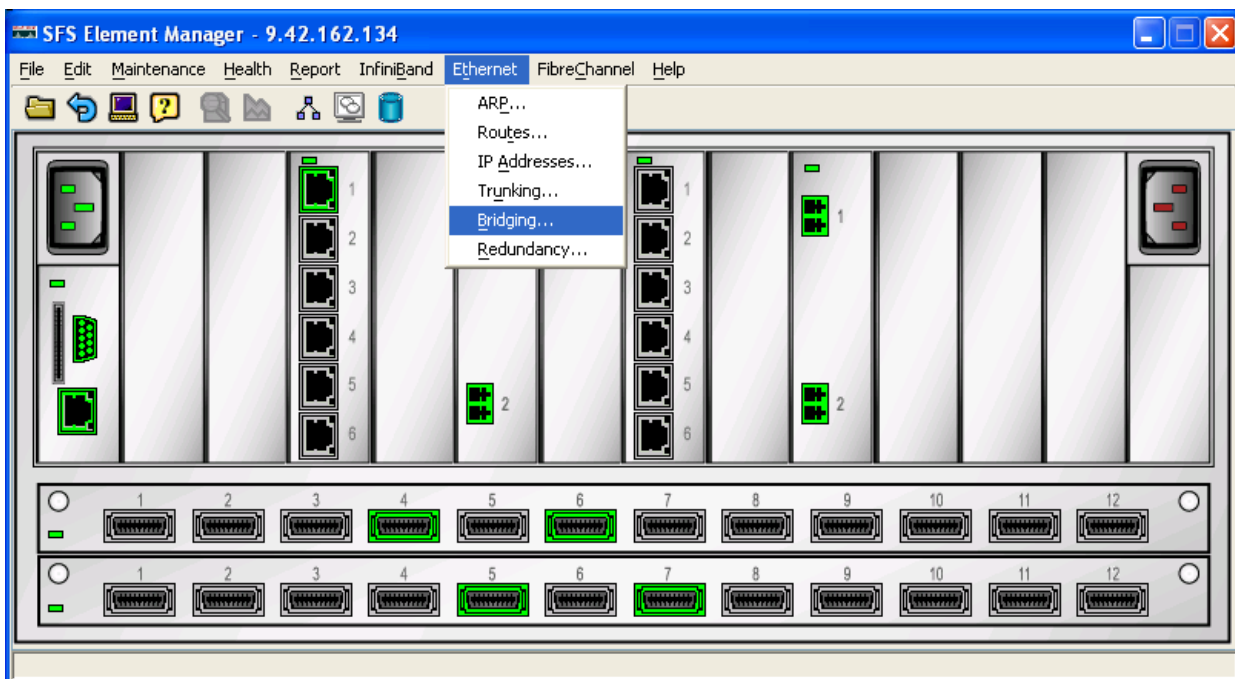

Figure 7-5 First step in creating a bridge group through the Element Manager GUI
1. To create our first bridge group, from the Element Manager GUI, click **Ethernet** → **Bridging** (see Figure 7-5).